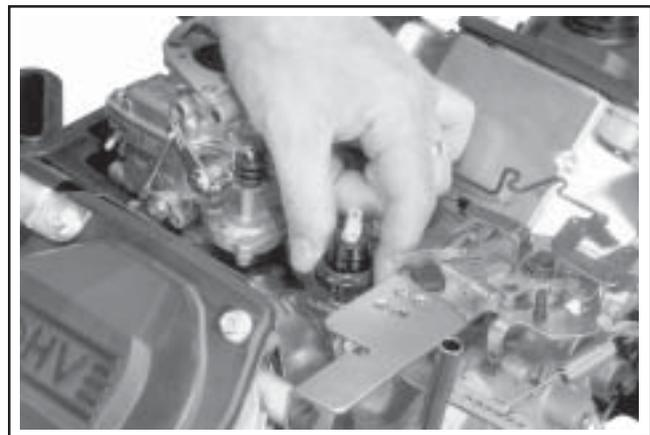

Figure 11-88. Installing Oil Sentry™ Switch.
1. Apply **pipe sealant with Teflon®** (Loctite® No. 59241 or equivalent) to the threads of the Oil Sentry™ switch and install it into the breather cover. See Figure 11-88. Torque to **4.5 N·m (40 in. lb.)**.